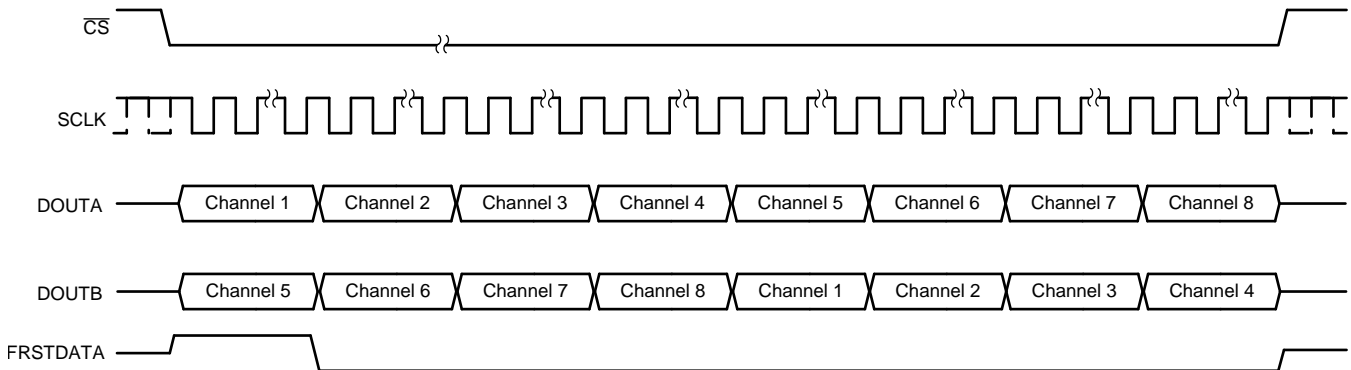

Figure 69. Data Read Back in the Serial Interface Using Either DOUTA or DOUTB Timing Diagram
disadvantage of using just one data line for reading conversion data is that the throughput is reduced if a data read operation is performed after conversion. Figure 69 shows this operation.
- Alternatively, only DOUTB can be used for reading the conversion data from all channels. In this case, everything else remains the same and the output bit stream contains data for all channels in the following order: channels 5, 6, 7, 8, 1, 2, 3, and 4. Figure 69 shows this operation.